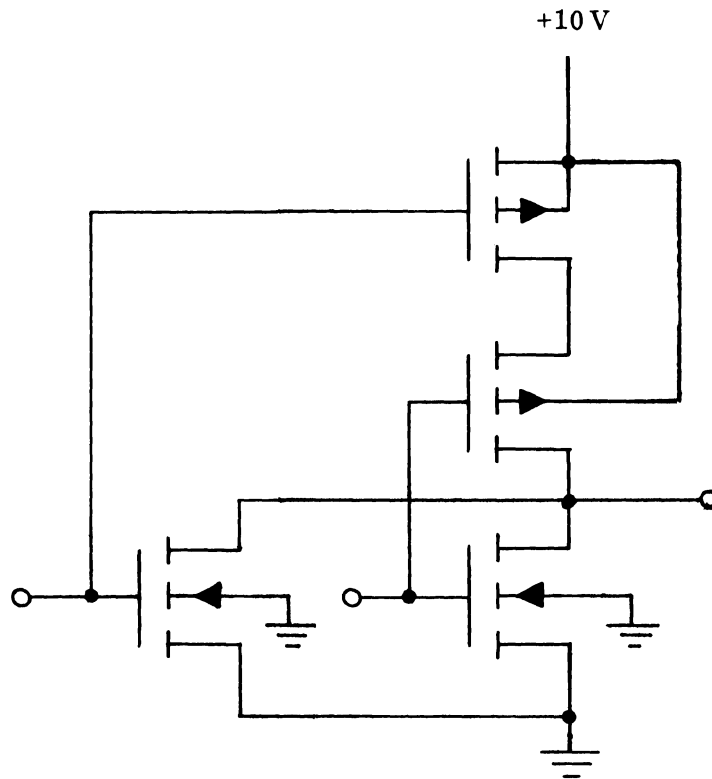

FIGURE 8
21. The circuit shown in figure 8 is _____ .